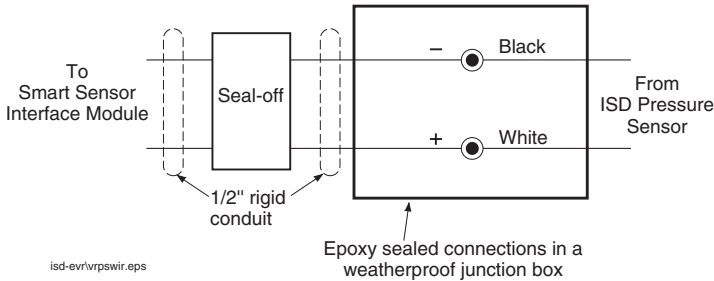

Figure 2. Field wiring ISD Pressure Sensor - Observe Polarity
11. Route the cable from ISD Pressure Sensor to the ISD Flow Meter/ISD Pressure Sensor junction box in the dispenser. Observing polarity, connect the sensor wiring to the field wiring from console and cap with wire nuts (see Figure 2).